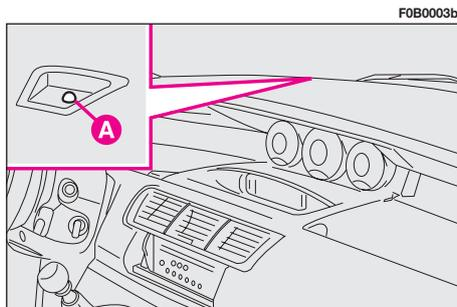
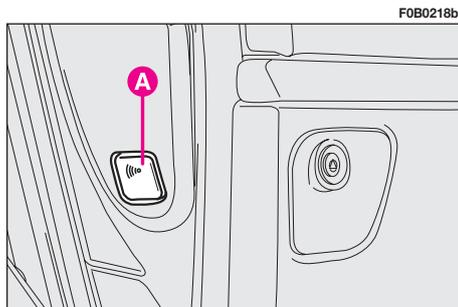

fig. 9
fig. 10
This will be accompanied by the direction indicator flashing and then the red led on the dashboard **A-fig. 9** flashing.
If the alarm system has triggered, led **A-fig. 9** will flash rapidly.
Before turning on the alarm system, press button **A-fig. 10**, which can be reached when the door is open, and red led **A-fig. 9**, placed on the instrument panel, will light up.
Press the button **A-fig. 9** again to return to the normal external and internal protection mode.
- within 10 seconds, from when the siren sounds, turn the ignition key to **M** and then press button **A-fig. 10**. The siren will be switched off.